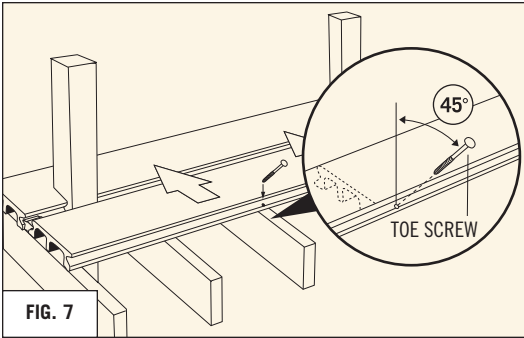

FIG. 7
- Attach or toe screw the deck board to the joist with a single #8 x 2" deck screw in the approximate center of the board. Pre-drill 3/16" hole into the deck board's lower lip at a 45° angle prior to installing screw. (REFER TO FIG. 7)